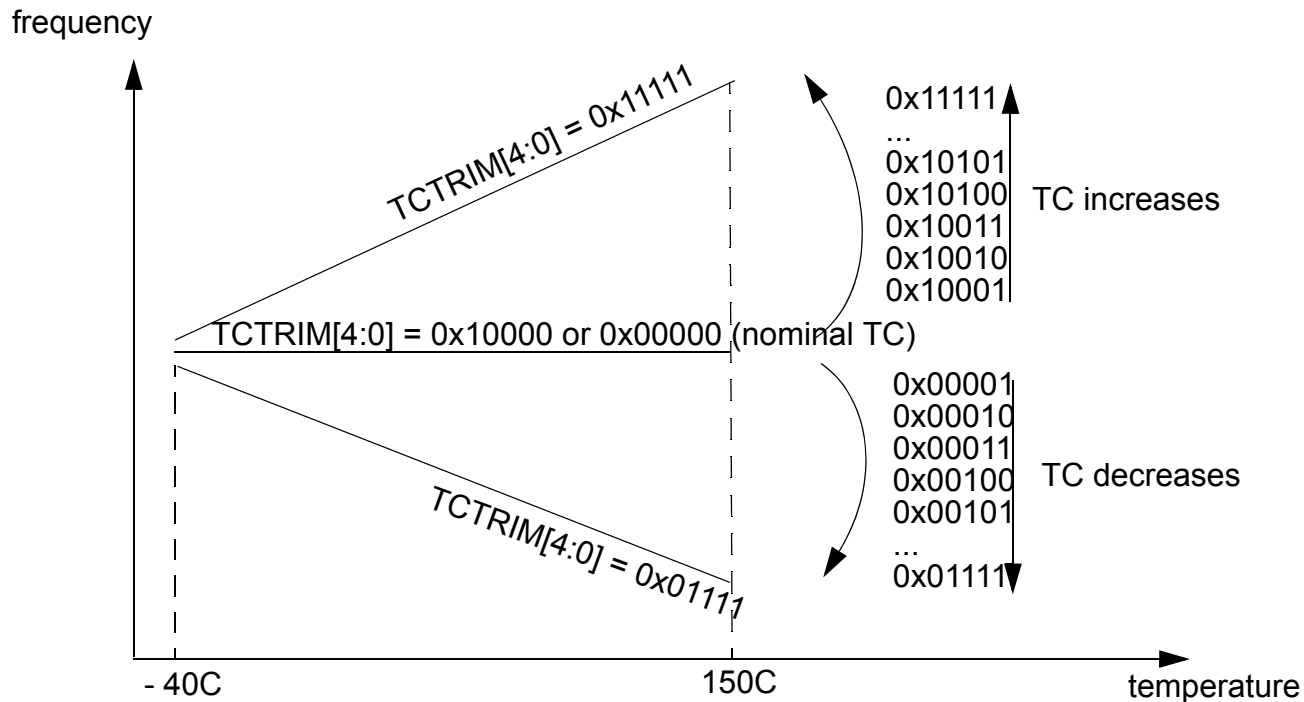

Figure 94. Influence of TCTRIM[4:0] on the Temperature Coefficient
15-11 TCTRIM	IRC1M temperature coefficient Trim Bits Trim bits for the Temperature Coefficient (TC) of the IRC1M frequency. Figure 94 shows the influence of the bits TCTRIM[4:0] on the relationship between frequency and temperature. Figure 94 shows an approximate TC variation, relative to the nominal TC of the IRC1M (i.e. for TCTRIM[4:0]=0x00000 or 0x10000).